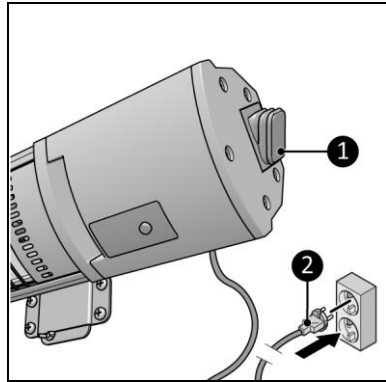

Figure 12
2. Make sure the ON/OFF switch is in the OFF position (Figure 12, pos. 1).
3. Place the power plug (Figure 12, pos. 2) into an earthed wall socket that is easily accessible. Use an earthed wall socket with a minimum power of 2500 Watt.
1. Make sure the ON/OFF switch is in the OFF position (Figure 12, pos. 1).
2. Disconnect the power plug from the power outlet (Figure 12, pos. 2).